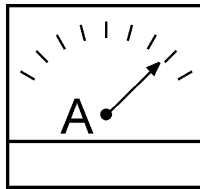

Figure 49. Ammeter (Load)
- Observe the generator's ammeter (Figure 49) and verify it reads the anticipated amount of current with respect to the load. The ammeter will only display a current reading if a load is in use.